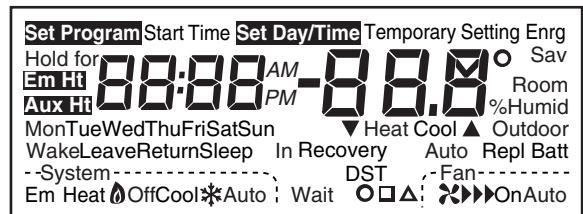

Fig. 8. Display of all the segments of the LCD.
- To enter the Installer Setup, press and hold the Information **i** key with the increase **▲** and decrease **▼** keys until the first number is displayed. All display segments appear for approximately three seconds before the number is displayed. See Fig. 8 and 9.